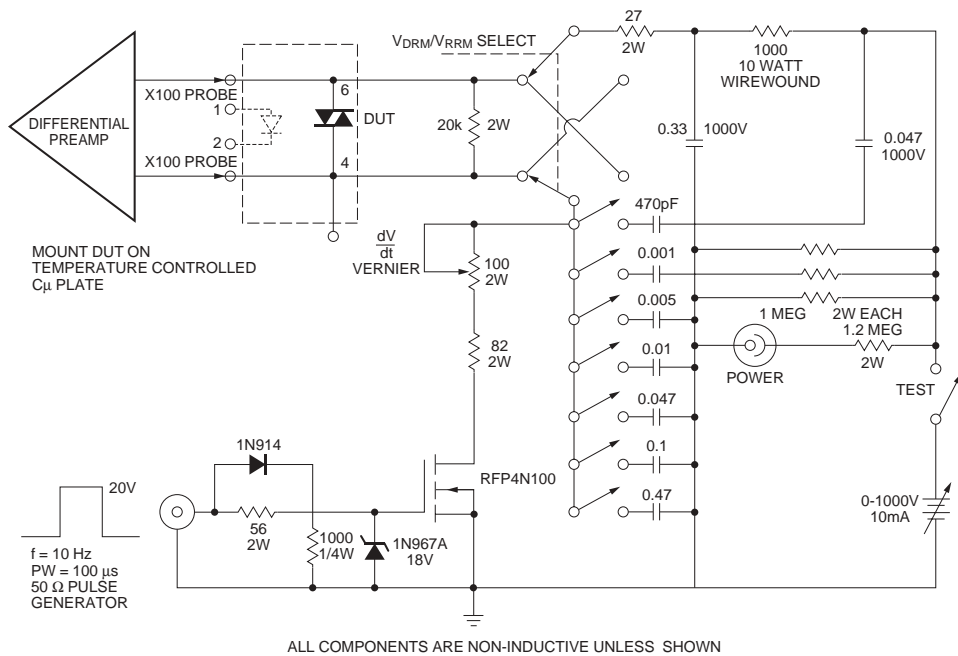

Figure 9. Circuit for Static $\frac{dv}{dt}$ Measurement of Power Thyristors
3. This is static dv/dt. See Figure 9 for test circuit. Commutating dv/dt is a function of the load-driving thyristor(s) only.